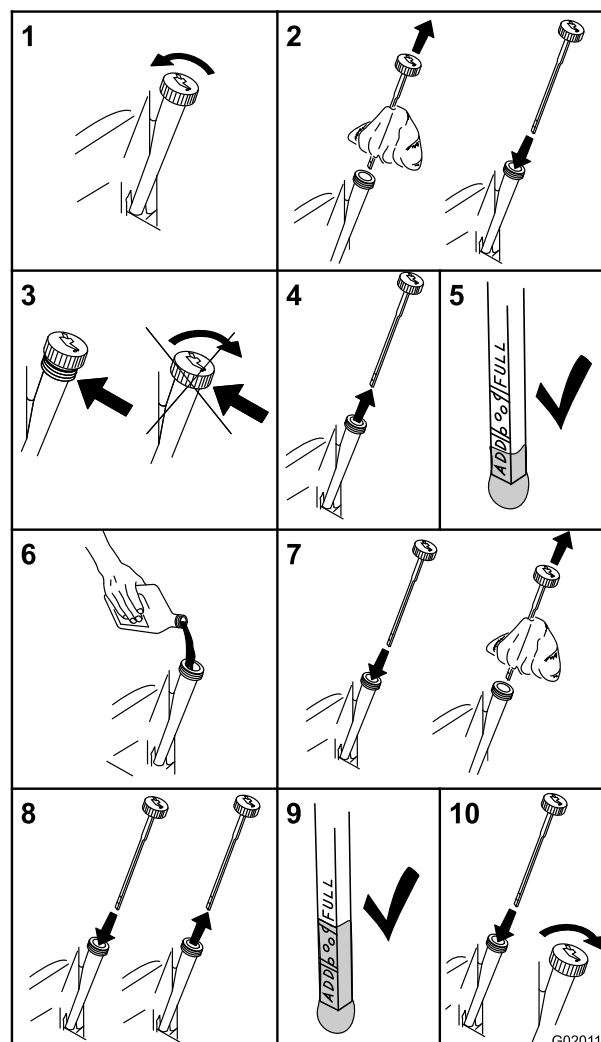

Figure 31
3. To keep dirt, grass clippings, etc., out of the engine, clean the area around the oil fill cap/dipstick before removing it (Figure 31).